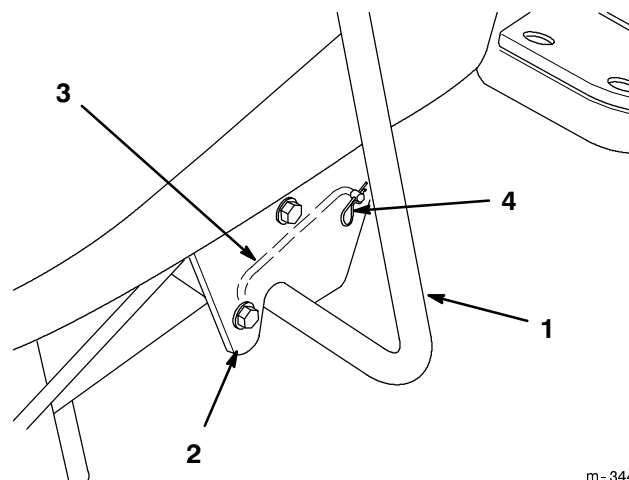

Figure 19
8. On the left side of the tractor, remove the hairpin cotter from the positioning pin, and remove the crank support (Fig. 19).